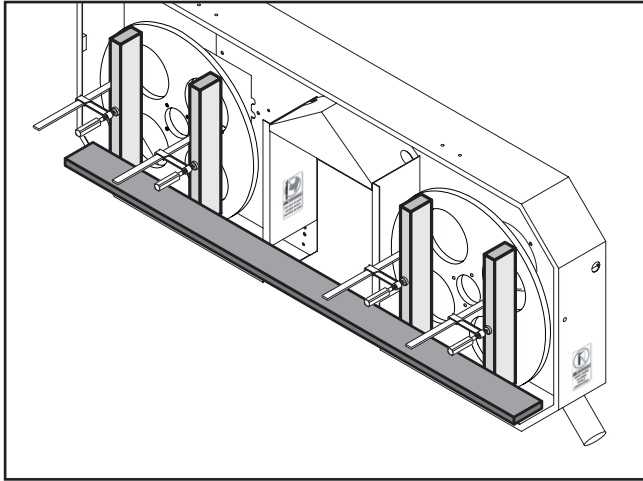

Figure 49. Straightedge placement when checking the lower portion of the wheels.
9. Place the straightedge across the bottom of the gauge blocks, as shown in **Figure 49**. The wheels should line up in the same manner as described in **Step 6**.